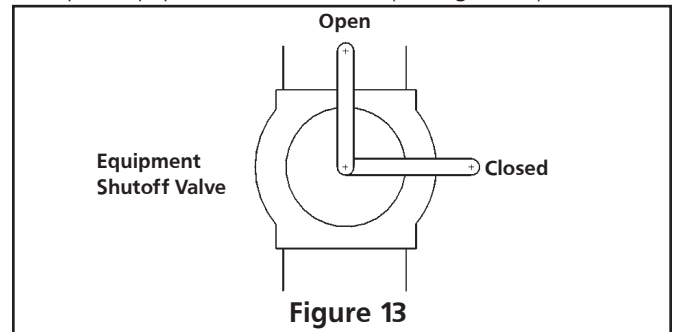

Figure 13
during any pressure testing of the gas supply piping system at test pressures equal to or less than 1/2 psi (3.5 kPa). (see figure 13).
3. Open equipment shutoff valve (see figure 13).